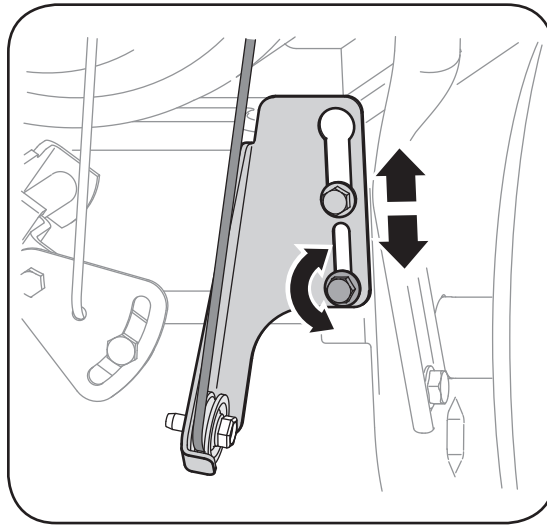

Figure 13
5. Loosen the lower hex nut on the drive cable bracket. See Figure 13.